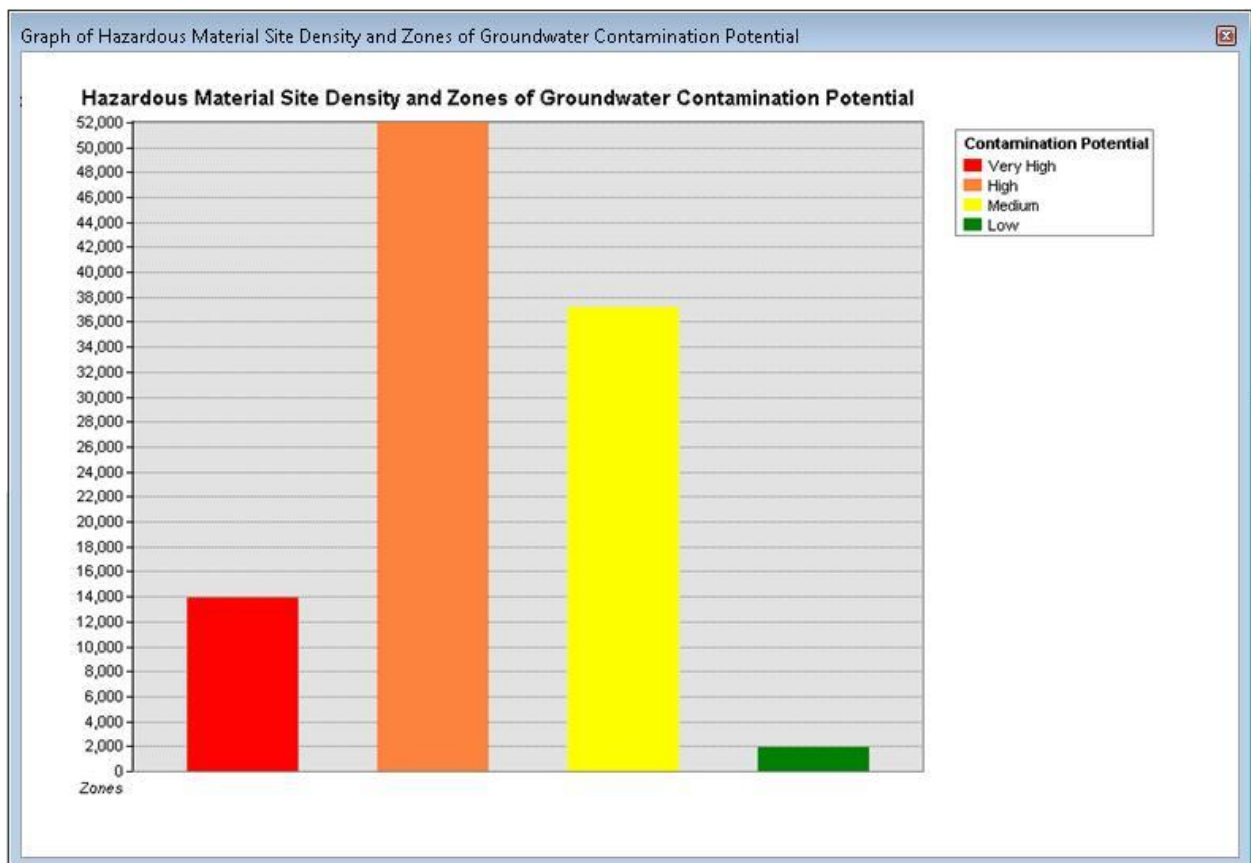

Figure 17. Histogram showing hazardous material site density and zones of groundwater contamination potential
- Print and interpret the chart (figure 17).